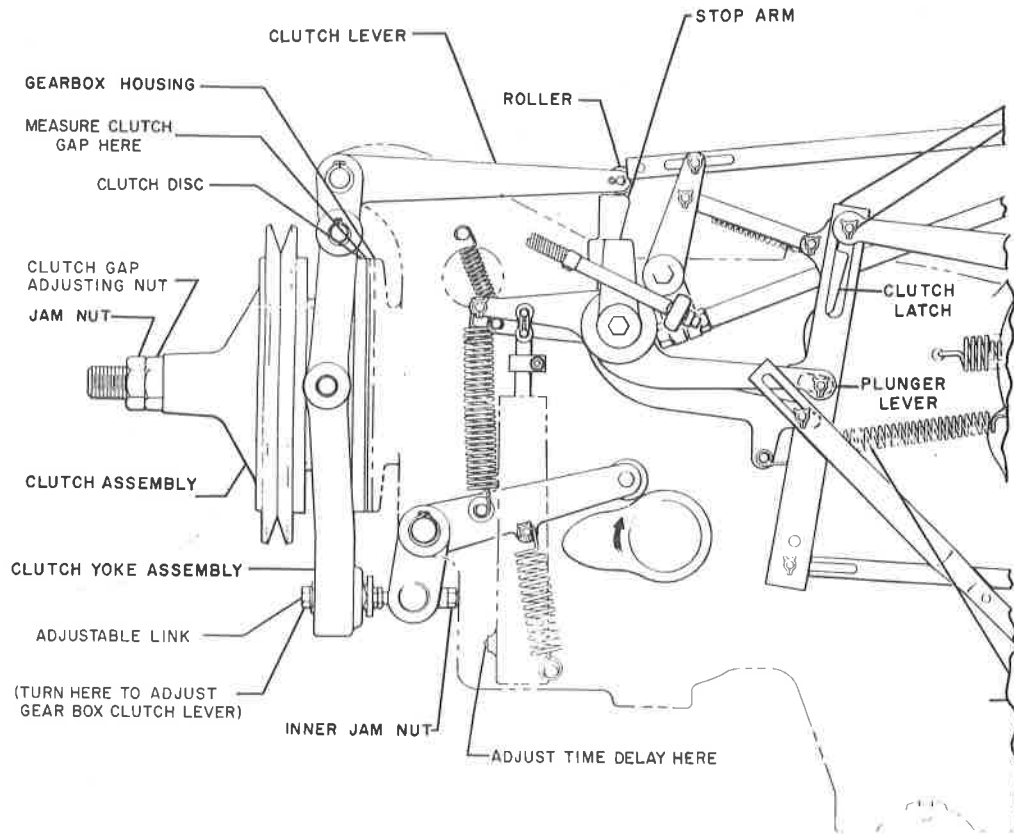

Figure 71. Gear Box Clutch Adjustment
15. GEAR BOX CLUTCH ADJUSTMENT. (FIGURE 71)
16. GEAR BOX CLUTCH LEVER ADJUSTMENT. (FIGURES 71 and 72)
18. GEAR BOX TIME DELAY ADJUSTMENT. (FIGURE 71)